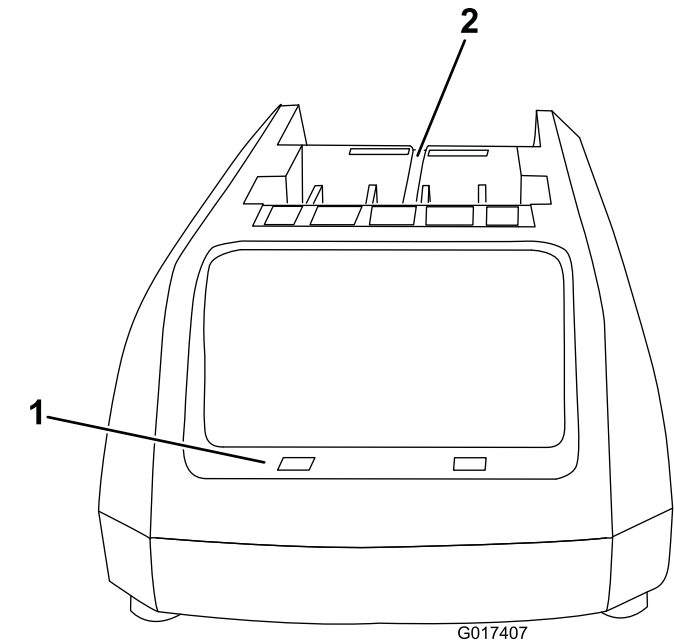
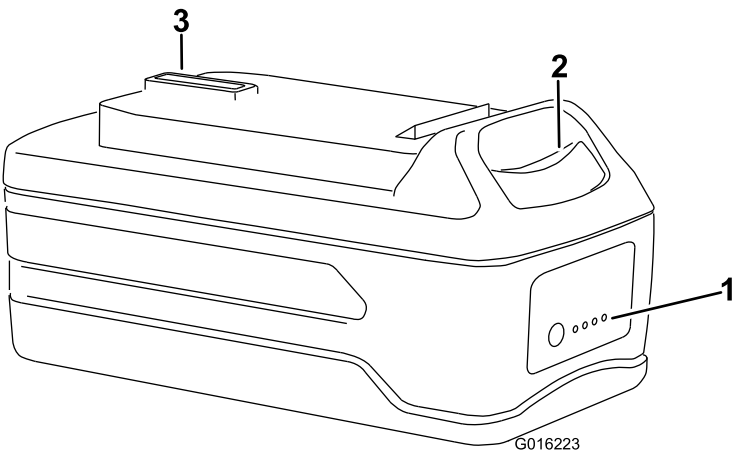

Figure 12
Figure 13
1. Turn the battery upside down and line up the battery terminal with the slot in the charger (Figure 12 and Figure 13).